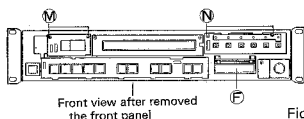

Fig. 4
- Remove the top cover and the front panel. (Refer to item 1, and 2)
- Pull the cartridge ass'y **F** out from the DM circuit board. (Refer to Fig. 4)
- Remove the 2 screws  $\text{M}$  ( $3 \times 8$  bind head screw). (Refer to Fig. 4)
- Remove the 2 screws  $\text{N}$  ( $3 \times 8$  bind head screw). (Refer to Fig. 4)